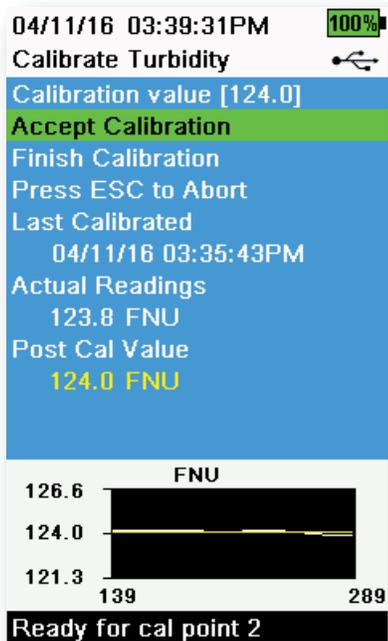

Figure 55 Calibrate Turbidity
10. Observe the actual measurement readings for stability (white line on graph shows no significant change for 40 seconds), then select **Accept Calibration** (Figure 55). “Ready for cal point 3” will be displayed in the message area.